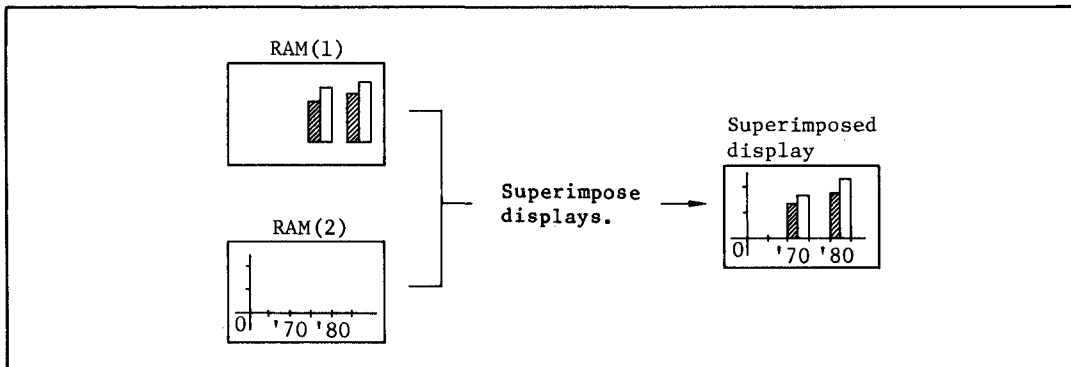

Figure 12-16 Example of the Superimposition of Graphic Displays
Here the 8-bit graphic data of the RAM(1) and RAM(2) are ORed. And then the ORed 8-bit output data will be displayed. Figure 12-16 shows an example of the superimposition of graphic displays.